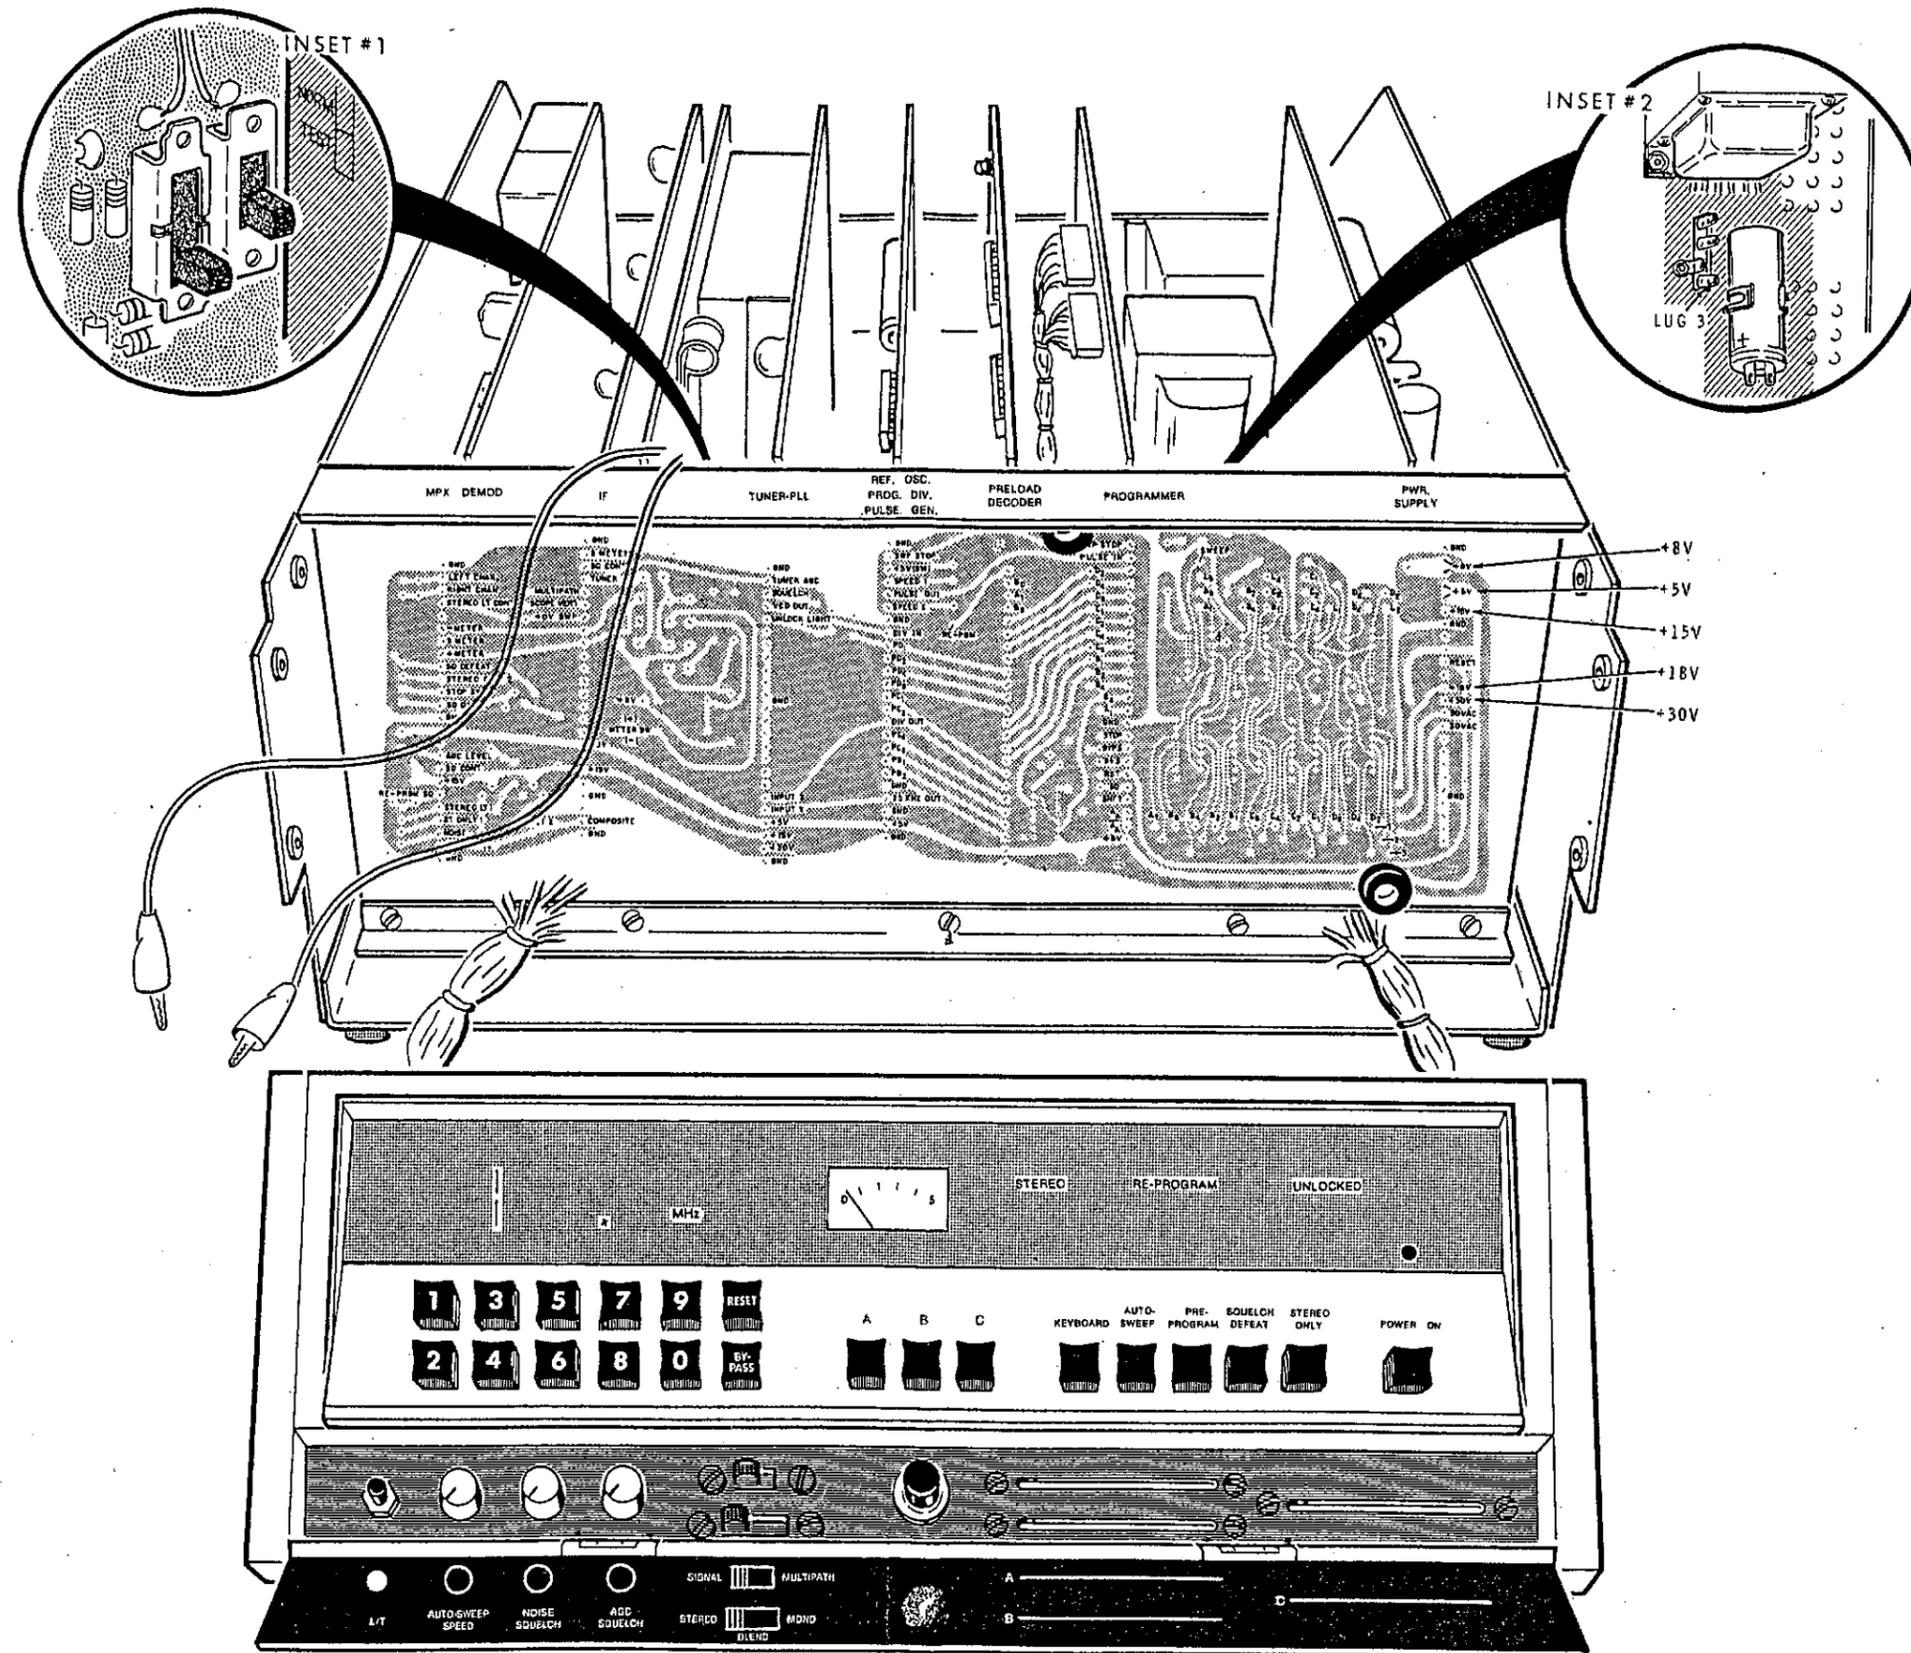
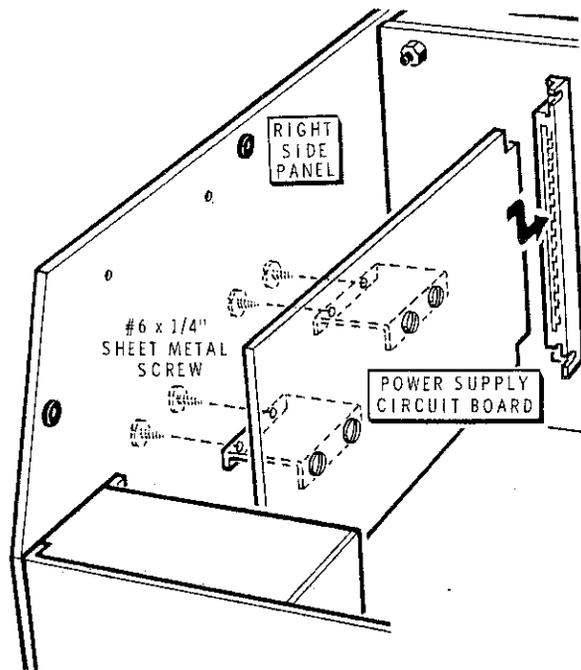

Figure 1-1
Figure 1-3
Refer to Figure 1-1 (fold-out from Page 122) for the following steps.
- (✓) Refer to Figure 1-1 and connect the red test lead to lug 3 of the terminal strip shown in inset drawing #2. The meter should read the following.
- (/) Refer to Figure 1-3 and install the power supply circuit board in the circuit board connector on the master circuit board.
- (/) Press the front panel POWER ON button to the ON (in) position. The one (1) and the decimal point should now light.
- (/) Refer to Figure 1-1 (fold-out from Page 122) for test locations and make the measurements in the following chart.